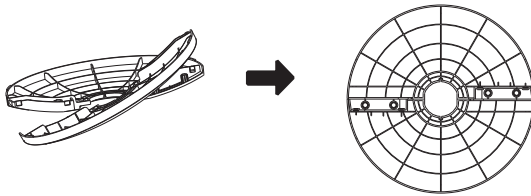

Fig.1
- 1 Take out the fan body and the spare parts from the box. Put the front base onto rear base and join them together. (See Fig. 1)